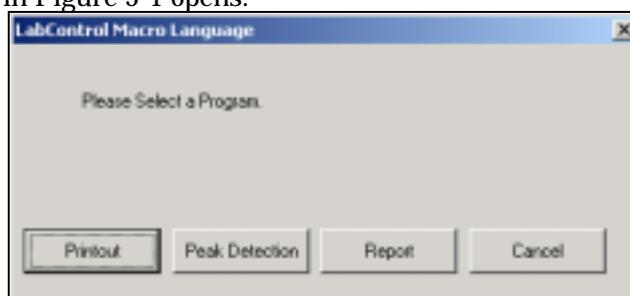

Figure 5-1. Selection of program
5. The dialog box in Figure 5-1 opens.